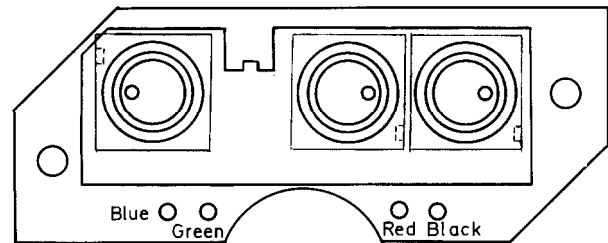

Fig. 5
- 7) If it becomes necessary to replace the switch of NASW-777 (Play, Repeat, Reject) for any reason, it is installed at the correct position as shown in fig. 5.